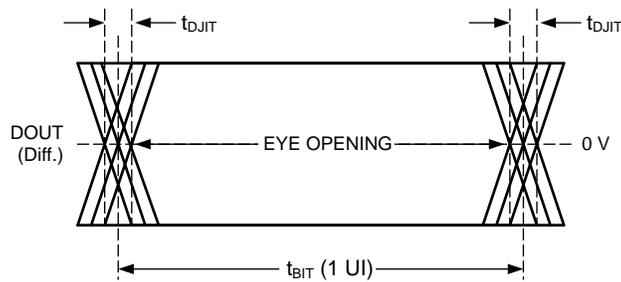

Figure 5. Serializer Output Jitter
| $t_{DJIT}$                          | Output Total Jitter (Figure 5)                       | Random Pattern              | Low pass filterIN_CLK/20      |        | 0.3                  |  | UI FPD3 (4) |